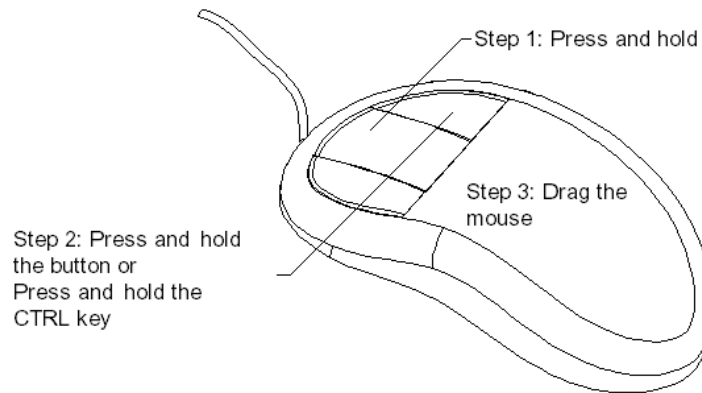

Figure 1-11 Using the three-button mouse to perform the rotate operation
5. Press and hold the middle mouse button. Then, press and hold the right mouse button or left mouse button to invoke the **Rotate** mode. Next, drag the mouse to dynamically rotate the view of the model in the geometry area and view it from different directions. You can rotate the model in the geometry area by pressing and holding the middle mouse button and then pressing and holding the CTRL key. Next, drag the cursor to rotate the view of the model. Figure 1-11 shows how to use the three-button mouse to perform the rotate operation.